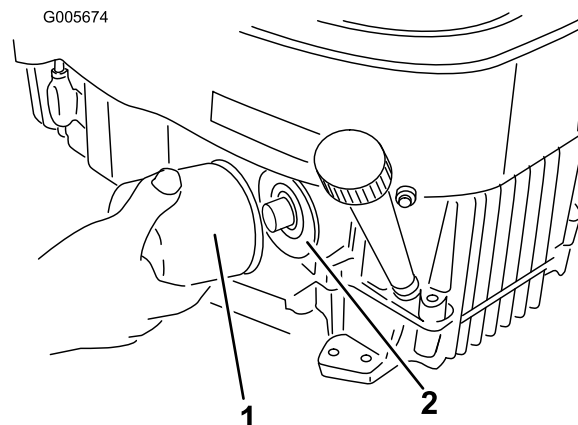

Figure 37
2. Remove the old filter (Figure 37).
4. Install the replacement oil filter to the adapter. Turn the oil filter clockwise until the rubber gasket contacts the filter adapter, then tighten the filter an additional 3/4 turn (Figure 37).